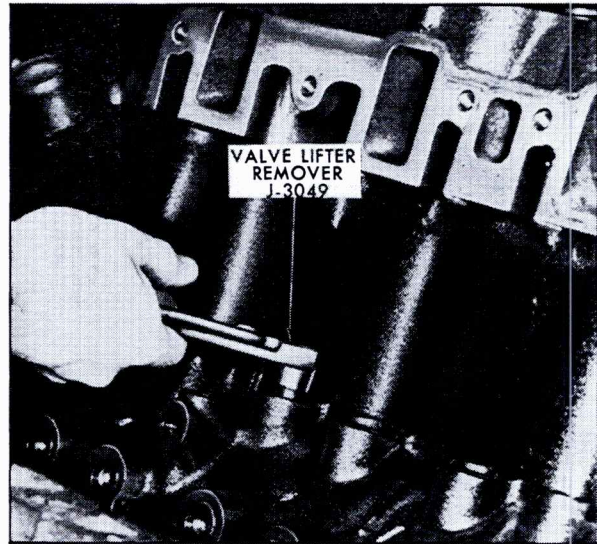

Fig. 6-109 Removing Valve Lifters
8. Using a small screwdriver, or pointed tool, remove lifters from engine. Keep them in order so they can be re-installed in same bores from which they were removed. Use Valve Lifter Remover, J-3049, to remove any lifters that are stuck, rotating lifter back and forth while lifting, Fig. 6-109.